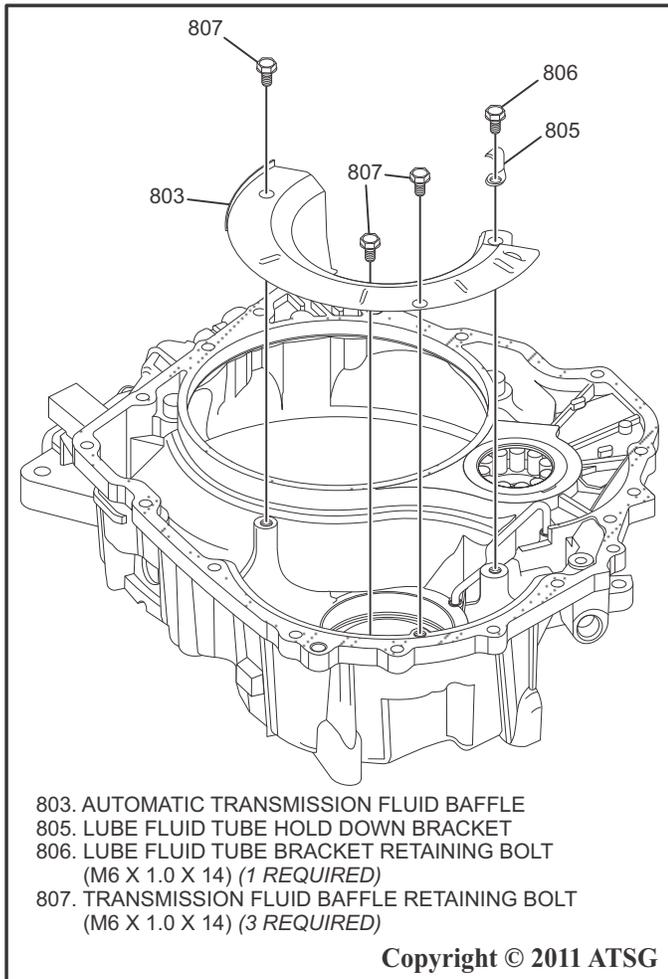

Figure 64
3. Remove the transmission fluid lube tube bracket retaining bolt and remove the bracket as shown in Figure 64.
4. Remove three transmission fluid baffle retaining bolts and the baffle as shown in Figure 64.